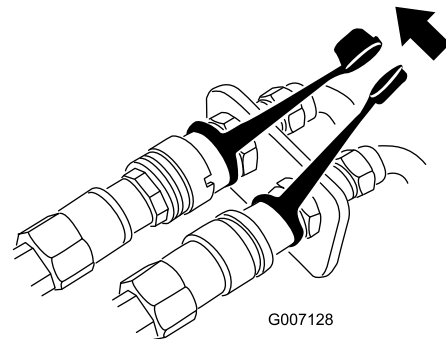

Figure 37
10. Connect the protective covers of the hydraulic couplers to each other to ensure the inside of the covers stay clean when the unit is in use (Figure 37).